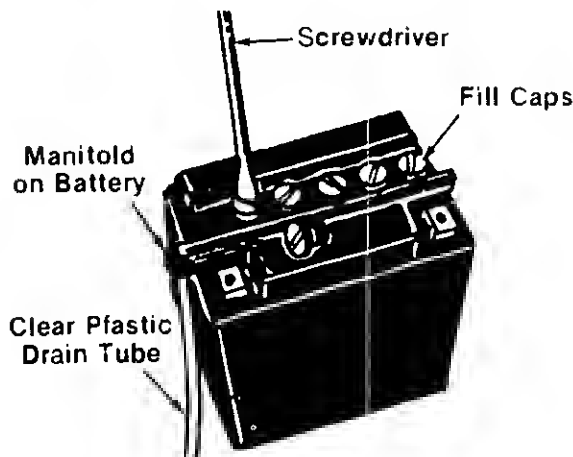

FIGURE 9.
- Place one end of clear plastic drain tube on manifold of battery. See figure 9.
- Remove the six fill caps from the top of the battery with a screwdriver. Care should be taken not to damage the fill caps. See figure 9.